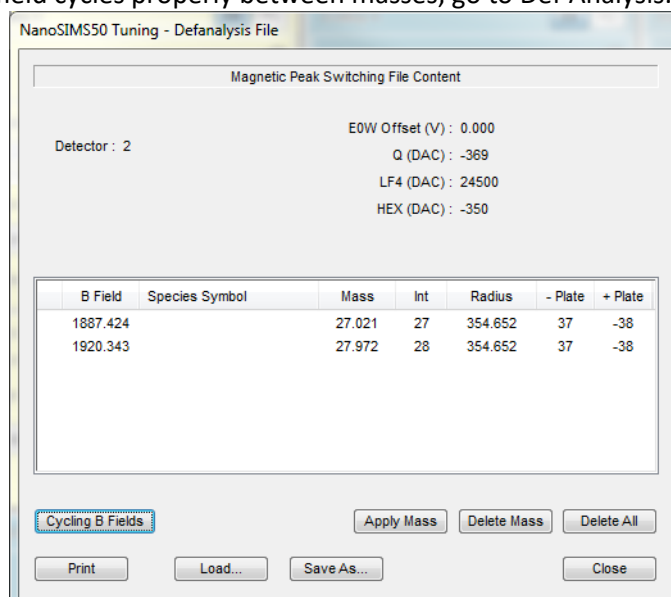

Figure 423: Def Analysis File in "Magnetic Peak Switching" mode
- 1- Open the Def Analysis File and click on "Cycling B Fields" (Figure 423). Let it cycle for say 20 min (this can be optimized case by case depending on the B-field interval to jump and the peak shape/mass resolution)